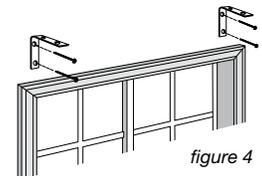

figure 4
2. Starting at one side of the window, position bracket so that the top of the bracket aligns with bottom of marks. Pre-drill pilot holes using the 1/16" bit and install using #8 x 1 1/2" screws and appropriate fasteners. If using fasteners (not provided), you may need a larger drill bit. (figure 4).